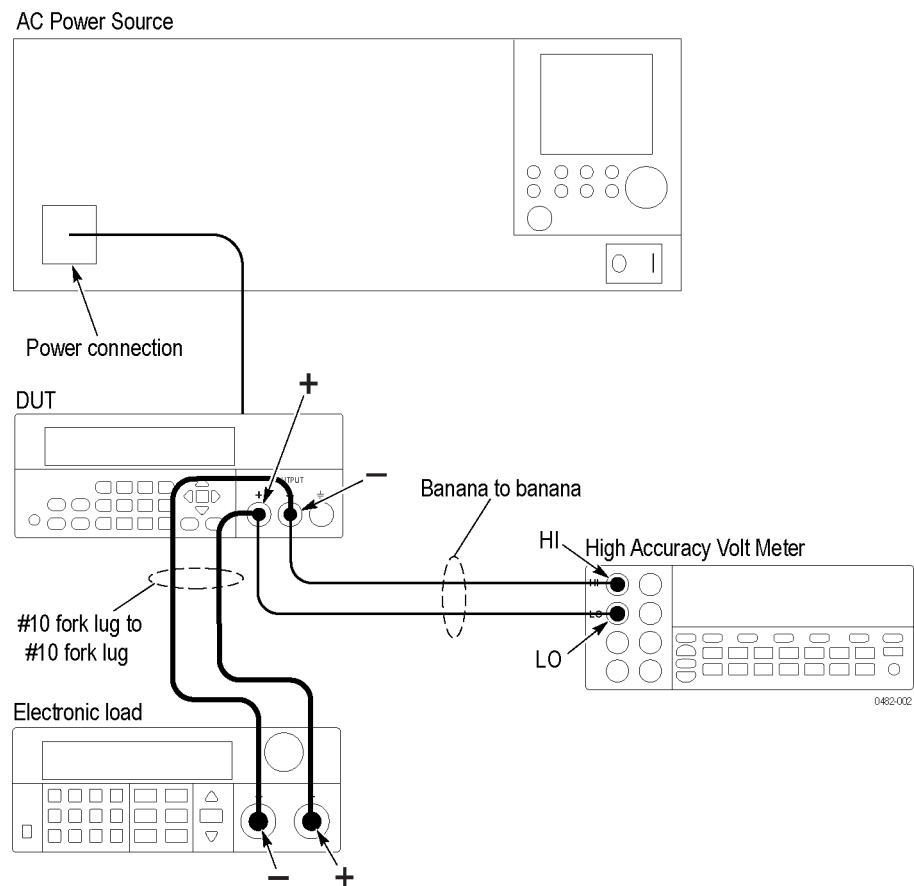

Figure 1: Voltage accuracy and regulation test setup
1. Set up the equipment as shown. (See Figure 1.)
This check procedure uses the same test setup as the previous procedure. (See Figure 1 on page 17.)